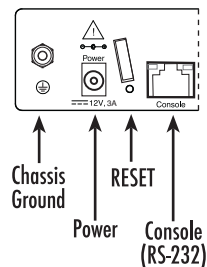

Figure 8. Power connector location on rear panel
1. Insert the barrel type connector end of the AC power cord into the *12V DC, 1.0A* port (see Figure 8).
5. Verify that the green *Power* LED is lit (see Figure 8).